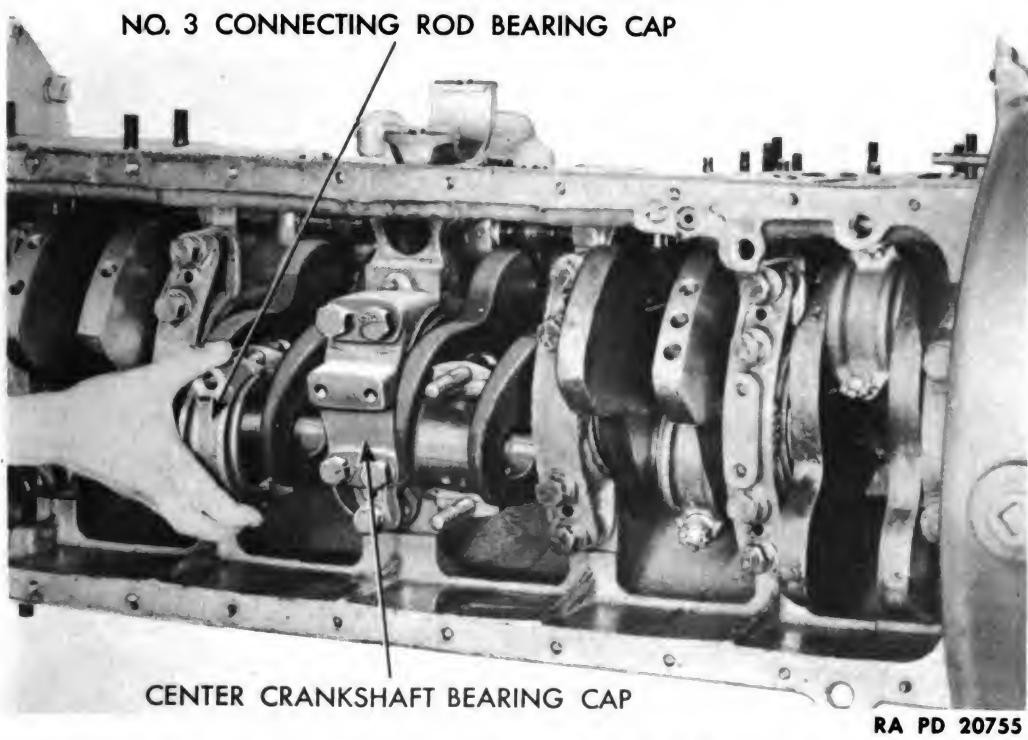

Figure 23 — Removing Connecting Rod Bearing Cap
- j. Remove Connecting Rods and Pistons. Remove cotter pins from connecting rod bolts. Remove two connecting rod bolt nuts, and pull off bearing cap and lower half of connecting rod bearing (fig. 23). Rotate crankshaft until piston is flush with top of cylinder block. Tap the connecting rod with a hammer handle to force piston out of crankcase so that rod and piston assembly can be pulled out through top of cylinder block (fig. 24). Replace cap on connecting rod, and insert connecting rod bolt nuts fingertight. Remove remaining five rods and pistons in same manner.